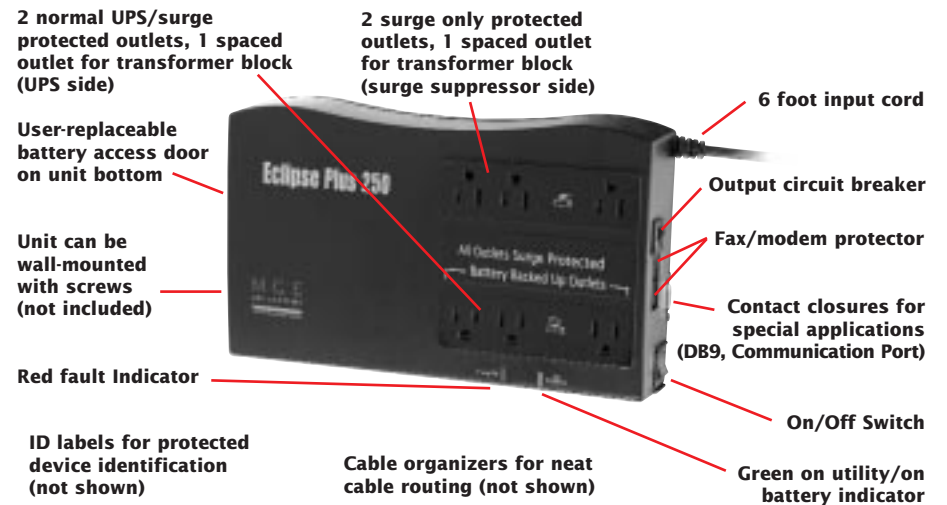
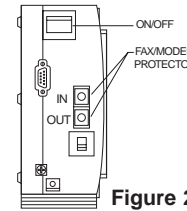

Figure 1
Figure 2
See **Figure 1** (on page 1) and **Figure 2** (on this page) for connection details.
5. Connect fax/modem cable if utilized (RJ11 cord is provided for fax/modem protector only). See **Figure 2** at left.
Communication Port (DB9, see Figure 1, page 1)
3. The overload protection breaker (**Figure 1**) trips off during a severe overload. If this occurs, unplug excess loads and reset circuit breaker by pressing its reset button.